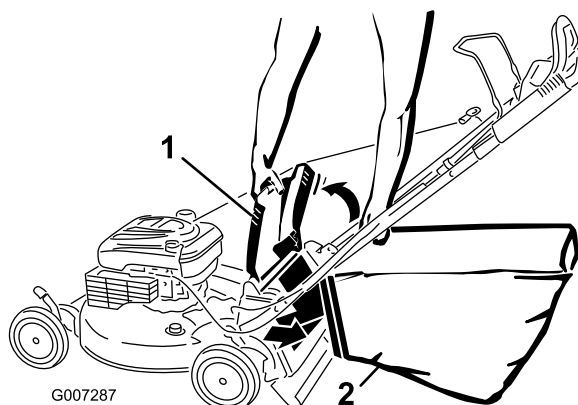

Figure 24
4. Hang the upper front edge of the bag on the notches (Figure 24).